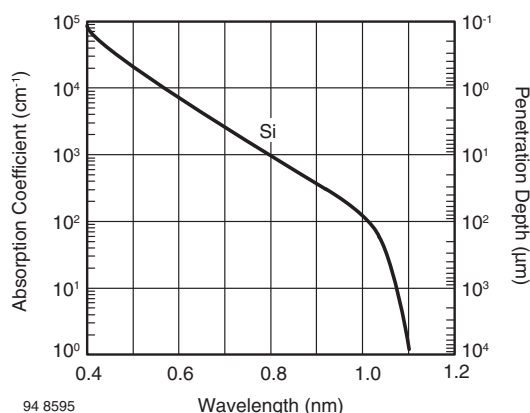

Fig. 8 - Absorption and Penetration Depth of Optical Radiation in Silicon
Absorption of radiation is caused by the interaction of photons and charge carriers inside a material. The different energy levels allowed and the band structure determine the likelihood of interaction and, therefore, the absorption characteristics of the semiconductors. The long wavelength cutoff of the absorption is given by the bandgap energy. The slope of the absorption curve depends on the physics of interaction and is much weaker for silicon than for most other semiconducting materials. This results in a strong wavelength-dependent penetration depth which is shown in figure 8. (The penetration depth is defined as that depth where $1/e$ of the incident radiation is absorbed.)
where A is the area of the diode. An externally applied bias will increase the space charge width (see figure 8) with the result that a larger number of carriers are generated inside this zone which can be flushed out very fast with high efficiency under the applied field. From equation (1), it is evident that the space charge width is a function of the doping concentration N_B . Diodes with a so-called pin structure show according to equation (1) a wide space charge width where i stands for intrinsic, low doped. This zone is also sometimes nominated as n or p rather than low doped n , n - or p , p -zone indicating the very low doping. Per equation (2), the junction capacitance C , is low due to the large space charge region of PIN photodiodes. These photodiodes are mostly used in applications requiring high speed.